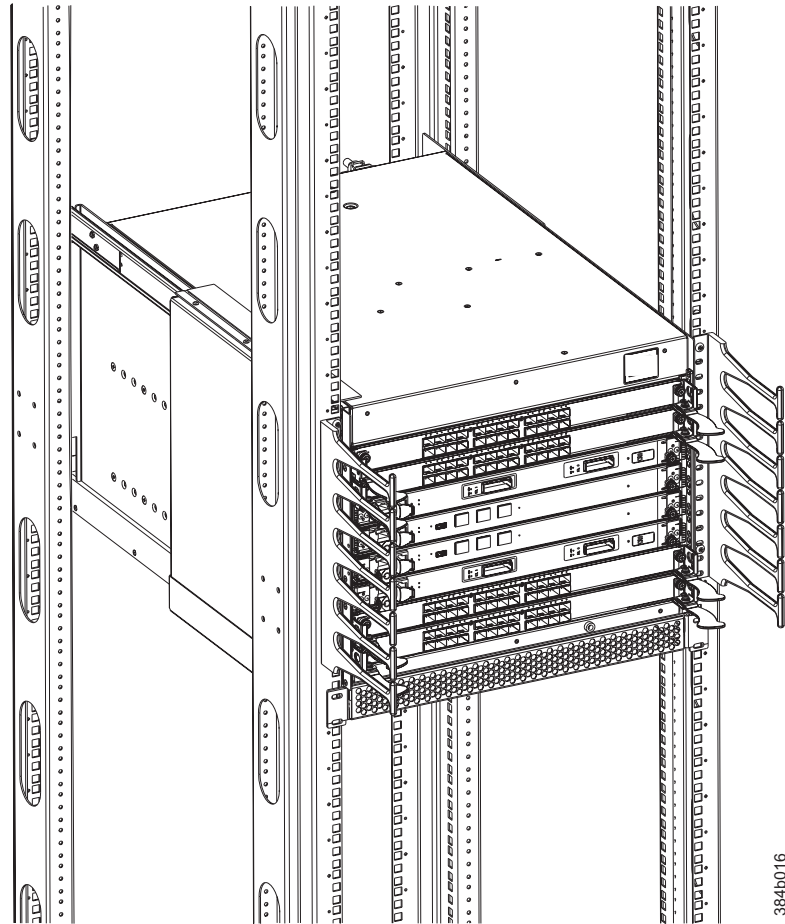

Figure 33. Cable management finger assemblies
3. Unscrew and save the two screws that attach the cable management assembly to the rack upright (see Figure 33 on page 73). Support the assembly to prevent it from falling.